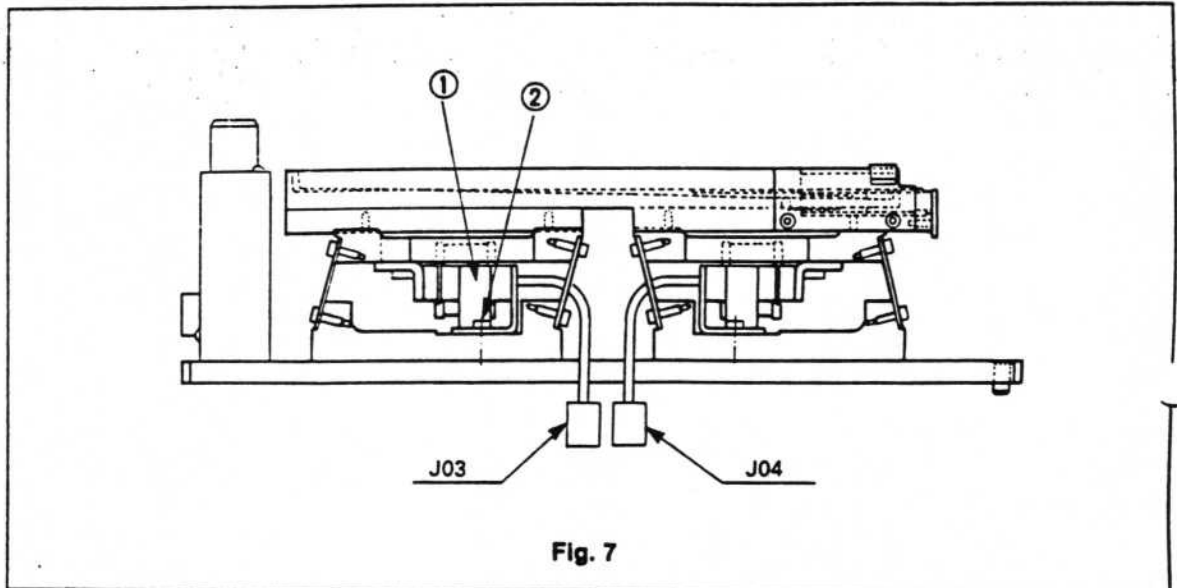

Fig. 7
(1) Remove the connector (J03 or J04) for the coil to be replaced from the main unit (see Fig. 7).